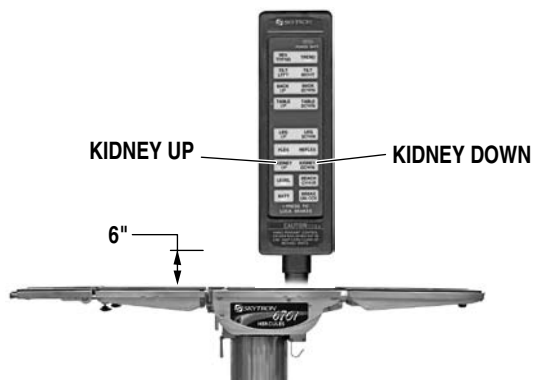

Figure 2-12. Kidney Lift Positioning
h. Kidney Lift. To raise the built-in kidney lift, press the KIDNEY UP button (figure 2-12). Up to 6 inches of lift can be achieved. Press the KIDNEY DOWN button to lower the kidney lift.